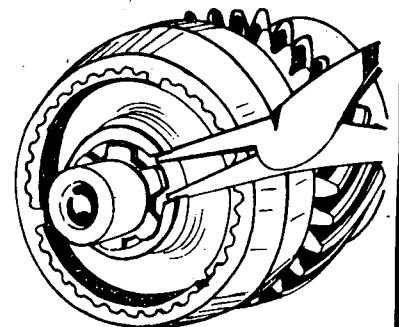

Fig. 2
- f) Install the synchronizer unit and replace the retaining clip (fig. 2).